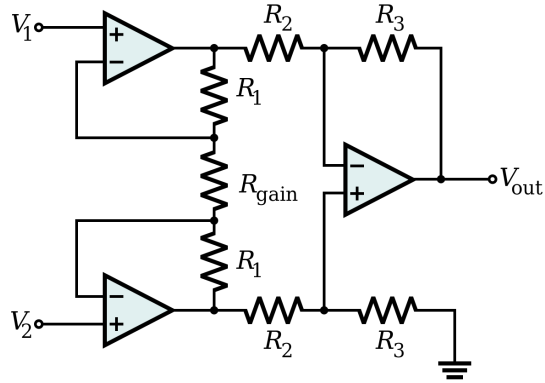

Figure 5: Typical configuration for an instrumentation amplifier
- Instrumentation amplifier & low pass filter: the instrumentation amplifier is realized by combining the three operational amplifiers A1, A2 and A3 in the typical instrumentation amplifier configuration (see Figure 5). The low pass filter is obtained by adding the capacitance C4. The filter quality is further improved by adding the bypass capacitors C2 and C3, which reduce the tendency of the respective operational amplifiers to amplify high-frequency noise